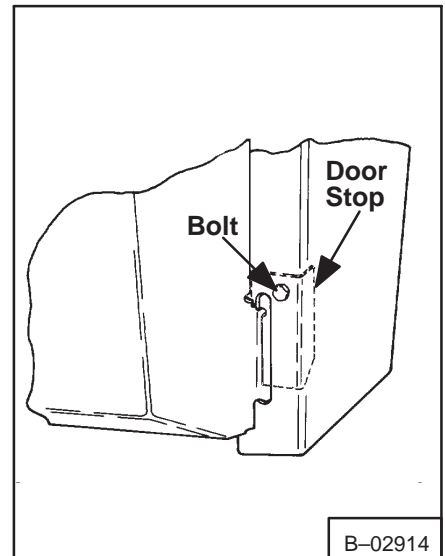

Fig. 1-9 Door Stop Installation
2. Install the door stop on the inner side of upright (Fig. 1-9).